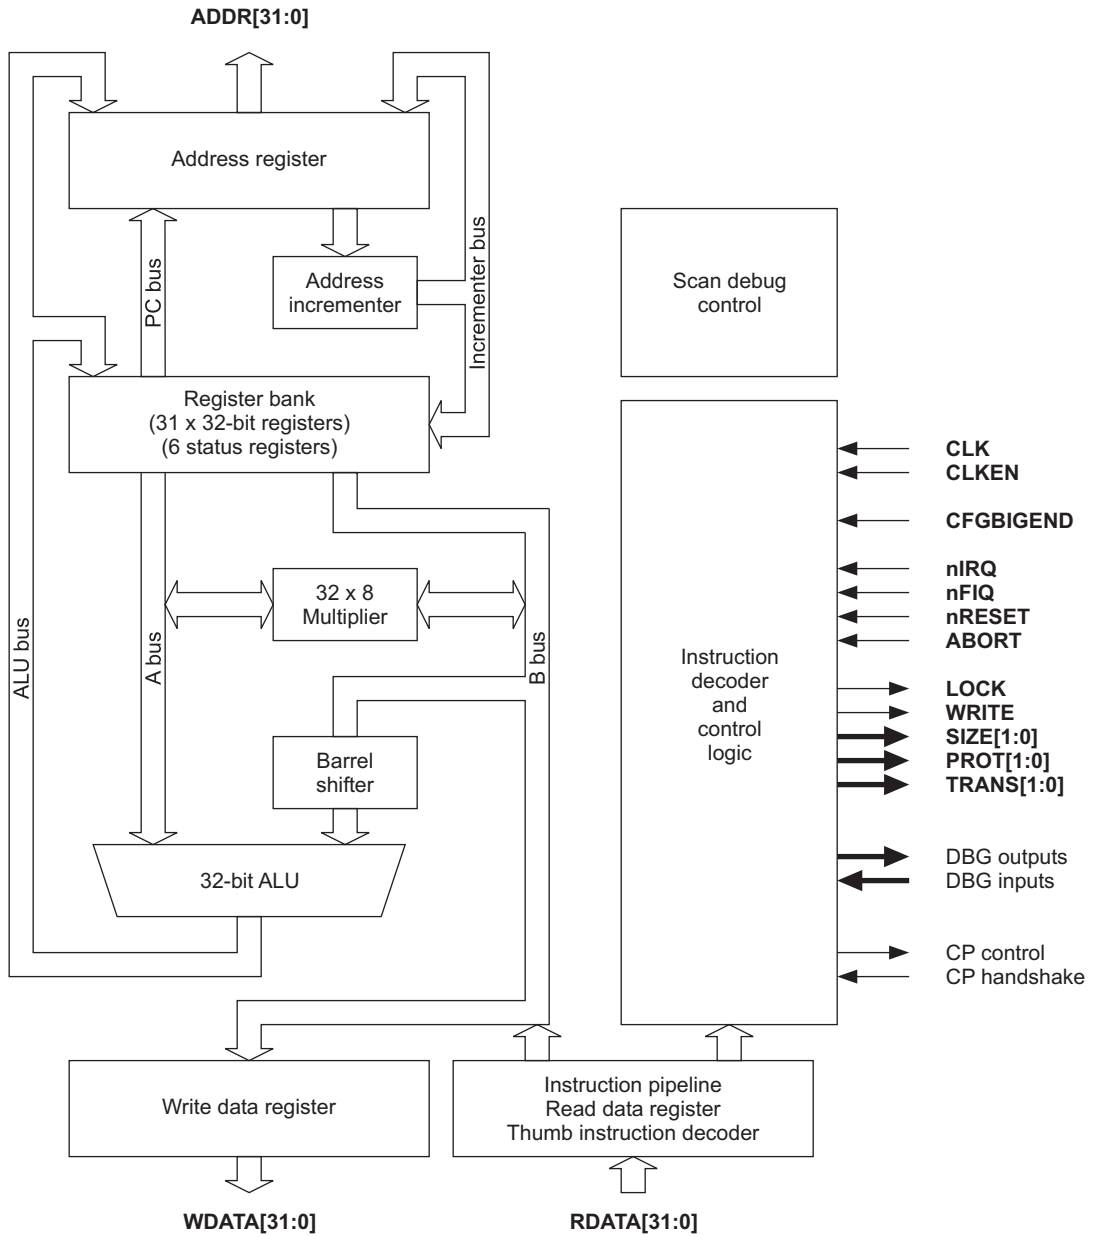

Figure 1-3 ARM7TDMI-S core
- the ARM7TDMI-S core is shown in Figure 1-3 on page 1-7